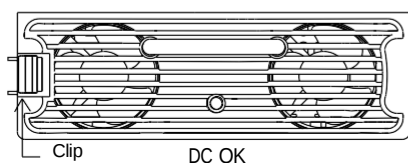

Figure 3-7 Location of the "clip" on RCP-2000 unit
- ⊗ Pull out the RCP-2000 unit: Press the clip shown in Figure 3-7 and pull the unit out.